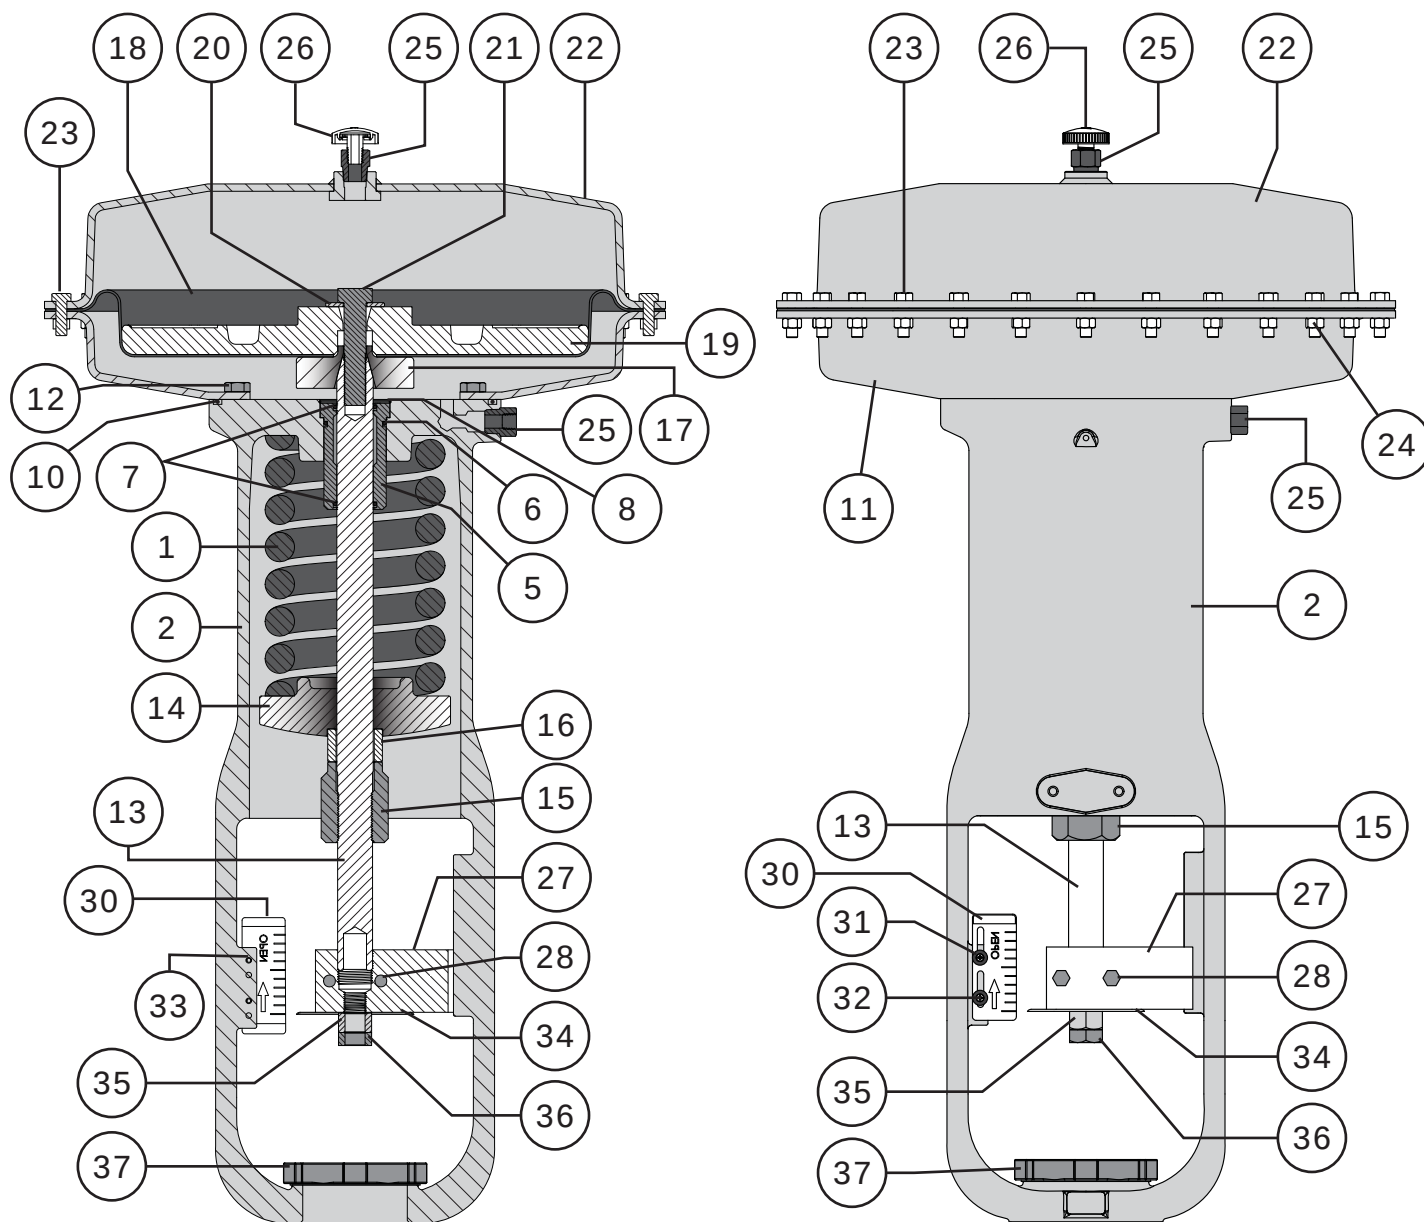

Figure 27 Cross Section - Size 220
- 5 Apply Permatex® Nickel Anti-Seize to the threads of the actuator stem (Key 13) and thread the spring adjuster (Key 15) onto the end of the actuator stem. **NOTE:** For some higher bench set actuators a spacer (Key 16) is required between the spring seat (Key 14) and the spring adjuster. Refer to Figure 27, and consult Dyna-Flo for more information.